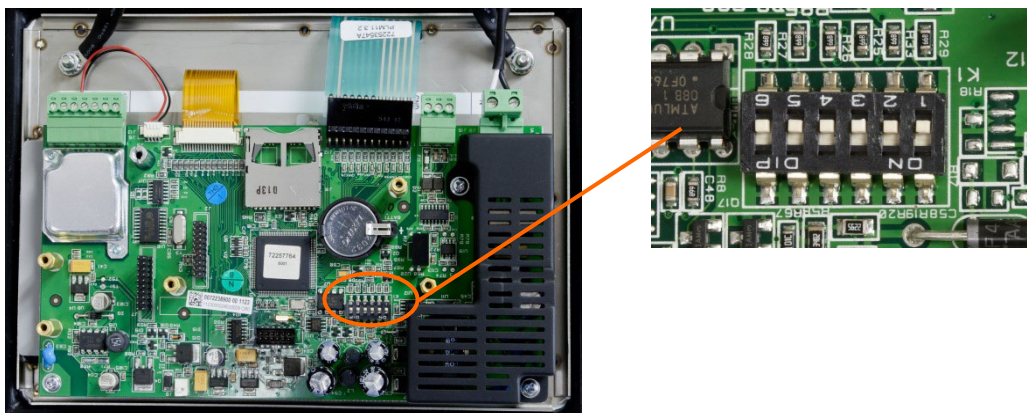

Figure A-71: Location of Switch Block 1 on the Main PCB, Analog Version
A six position switch block (Figure A-71) is located on the main PCB. These switches function as shown in Table A-6.
1. Ensure that the appropriate approval region has been selected in setup under **Scale > Type > Approval**, and that the Metrology security switch SW1-1 is in its ON position (refer to Figure A-71 and Table A-6).